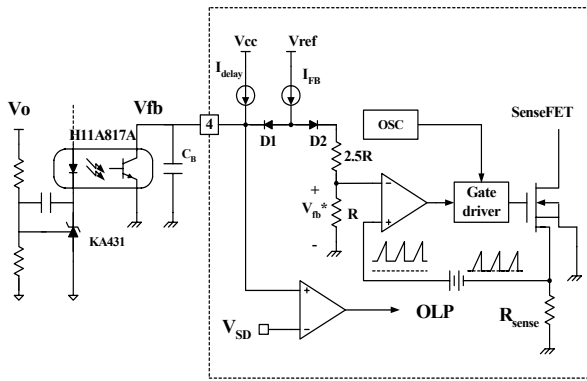

Figure 6. Pulse width modulation (PWM) circuit
**2. Feedback Control** : FS7M-series employs current mode control, as shown in Figure 6. An opto-coupler (such as the H11A817A) and shunt regulator (such as the KA431) are typically used to implement the feedback network. Comparing the feedback voltage with the voltage across the Rsense resistor plus an offset voltage makes it possible to control the switching duty cycle. When the reference pin voltage of the KA431 exceeds the internal reference voltage of 2.5V, the H11A817A LED current increases, thus pulling down the feedback voltage and reducing the duty cycle. This event typically happens when the input voltage is increased or the output load is decreased.
**2.1 Pulse-by-pulse current limit**: Because current mode control is employed, the peak current through the Sense FET is limited by the inverting input of PWM comparator (Vfb\*) as shown in Figure 6. The feedback current (IFB) and internal resistors are designed so that the maximum cathode voltage of diode D2 is about 2.8V, which occurs when all IFB flows through the internal resistors. Since D1 is blocked when the feedback voltage (Vfb) exceeds 2.8V, the maximum voltage of the cathode of D2 is clamped at this voltage, thus clamping Vfb\*. Therefore, the peak value of the current through the Sense FET is limited.